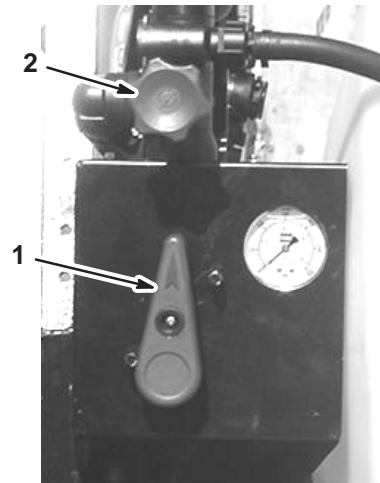

Figure 17
5. Turn the pressure control knob all the way counter-clockwise (Fig. 17).
6. Move the control handle clockwise, pointing up (Fig. 17).
9. Use the pressure control knob to adjust the hand spray pressure (Fig. 17).